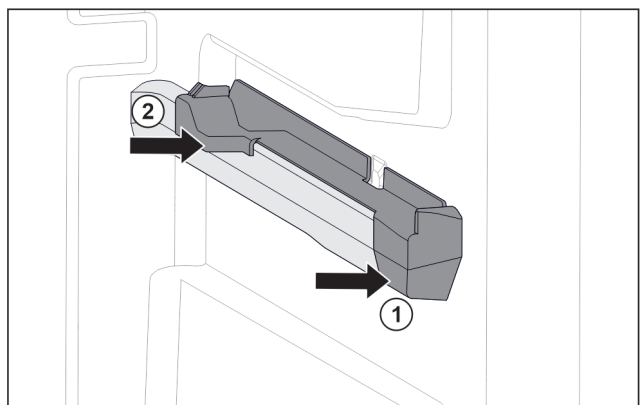

Fig. 108 Attachment on the right moulded rib
- ▶ Position attachment on moulded rib at the front. Fig. 108 (1)
- ▶ Press on attachment at the back. Fig. 108 (2)